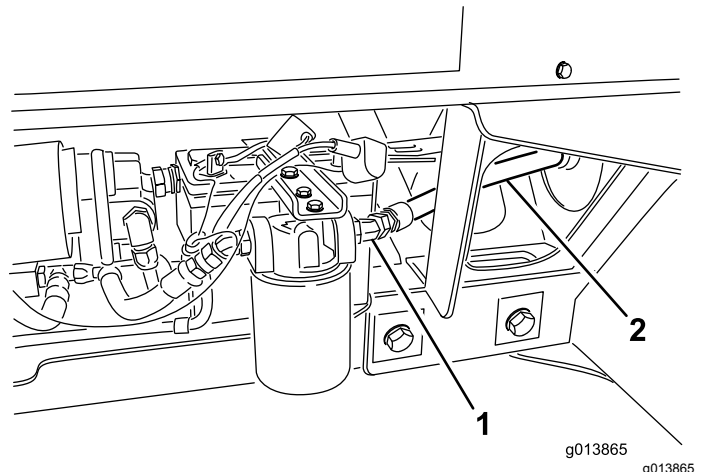

Figure 11
37. Connect hydraulic hose #3 to the filter outlet (Figure 11).